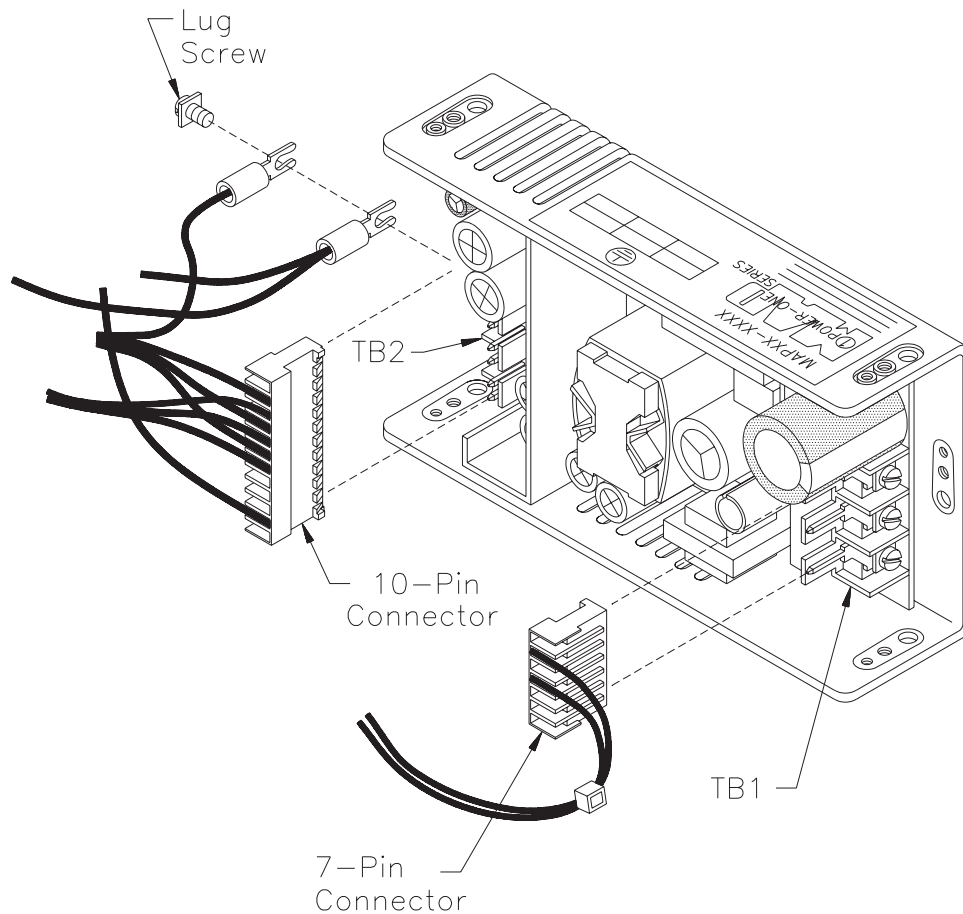

Figure 15-3 Power supply cable connections
The power supply cable connections are shown in Figure 15-3.
1. Replace the wire clips as follows (refer to Figure 15-3):